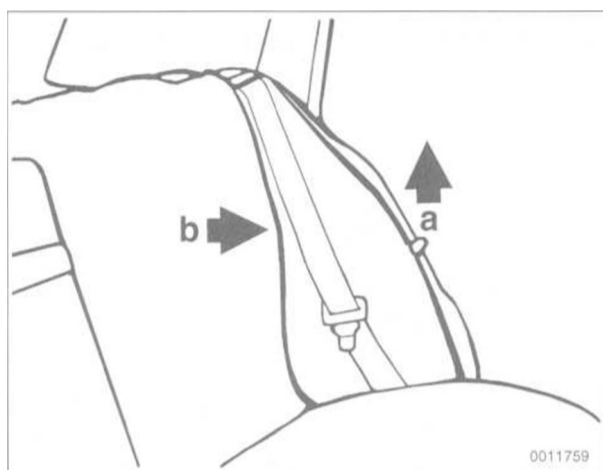

Fig. 19. Remove backrest side section by lifting up **(a)** and out **(b)**. Left rear seat side section shown.
- Tilt backrest forward and use flat screwdriver to unlock retainers. See Fig. 19. Lift out backrest.
1. Lift backrest side section out and up. See Fig. 19.